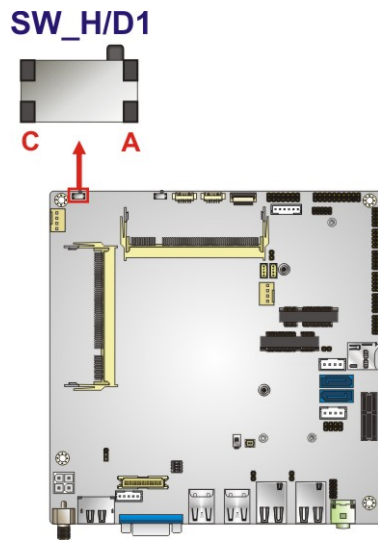

Figure 4-20: HDMI/DP Select Switch Location
- CN Location:** See **Figure 4-20**